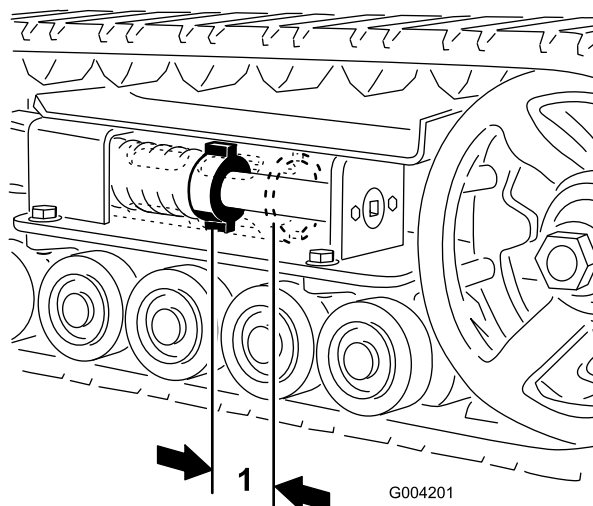
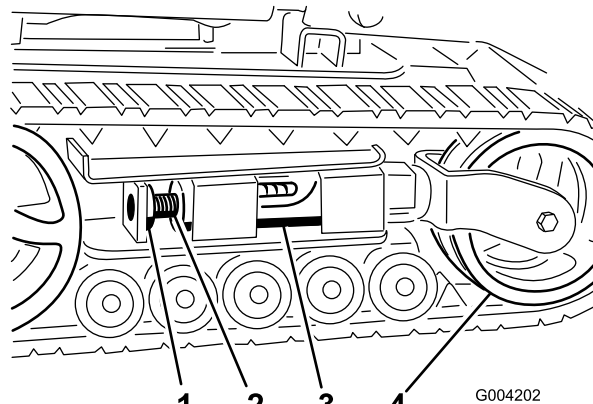
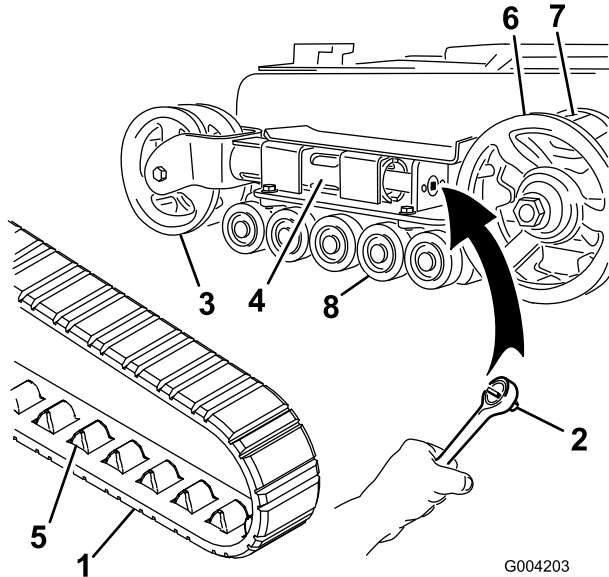

Figure 41
Figure 42
Figure 43
There should be 2-3/4 inches (7 cm) between the tension nut and the back of the tension tube (Figure 41). If not, adjust the track tension using the following procedure:
3. Remove the locking bolt and nut (Figure 42).
4. Using a 1/2 inch drive socket wrench (Figure 43), turn the tensioning screw counter-clockwise until the distance between the tension nut and the back of the tension tube (Figure 41) is 2-3/4 inches (7 cm).
5. Align the closest notch in the tension screw to the locking bolt hole and secure the screw with the locking bolt and nut (Figure 42).
4. Using a 1/2 inch drive socket wrench, release the drive tension by turning the tensioning screw clockwise (Figure 42 and Figure 43).
5. Push the tension wheel toward the rear of the unit to move the tension tube against the frame (Figure 43). (If it does not touch the frame, continue turning the tensioning screw until it does.)
7. When the track is off of the tension wheel, remove it from the drive sprocket and road wheels (Figure 43).
8. Beginning at the drive sprocket, coil the new track around the sprocket, ensuring that the lugs on the track fit between the cogs on the sprocket (Figure 43).
9. Push the track under and between the road wheels (Figure 43).
11. Turn the tensioning screw counter-clockwise until the distance between the tension nut and the back of the tension tube (Figure 41) is 2-3/4 inches (7 cm).
4. Using a 1/2 inch drive socket wrench, release the drive tension by turning the tensioning screw clockwise (Figure 42 and Figure 44).
17. Turn the tensioning screw counter-clockwise until the distance between the tension nut and the back of the tension tube (Figure 41) is 2-3/4 inches (7 cm).